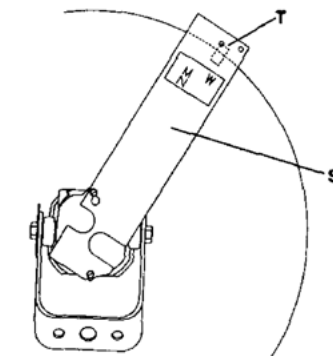

FIGURE 3
1. Loosen (2) yoke bolts (L)
2. Loosen repositioning stop bolt (J)
4. Loosen but do not remove (2) wiring compartment cover screws (M)
5. Place keyhole slot in aiming holes located as shown in figure 3.
6. Be sure that the aiming sight bracket (S) slides all the way down and is firmly seated under BOTH screw heads and tighten screws (M)
7. Look through the holes at the end of the aiming sight bracket (S). Use the hole above the "M" for medium and narrow, "W" for wide distribution reflectors.
8. Align the center of the hole with TOP LEFT edge of the door retaining latch (T).
10. Once the fixture is aimed, tighten only the yoke bolt (L) on the side opposite the repositioning stop (K).
12. Rotate the repositioning stop (K) until the tab resets firmly against the yoke (H) and tighten the repositioning stop bolt (J). Tighten the other yoke bolt (L).
13. Remove the aiming sight bracket (S) and save the bracket for the owner.
14. Tighten the (2) cover screws (M).